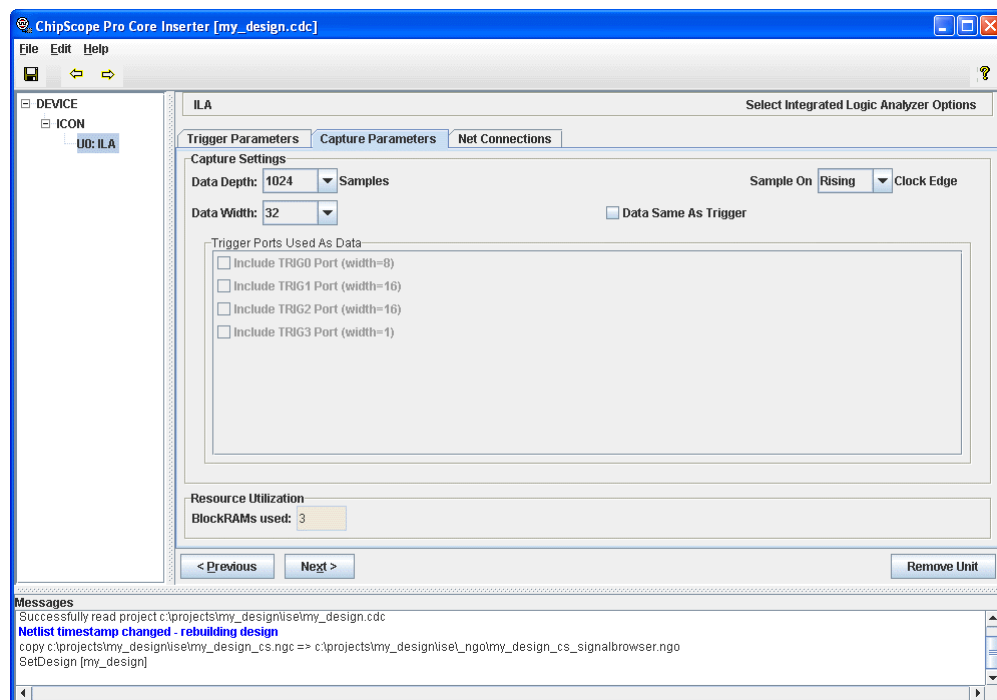
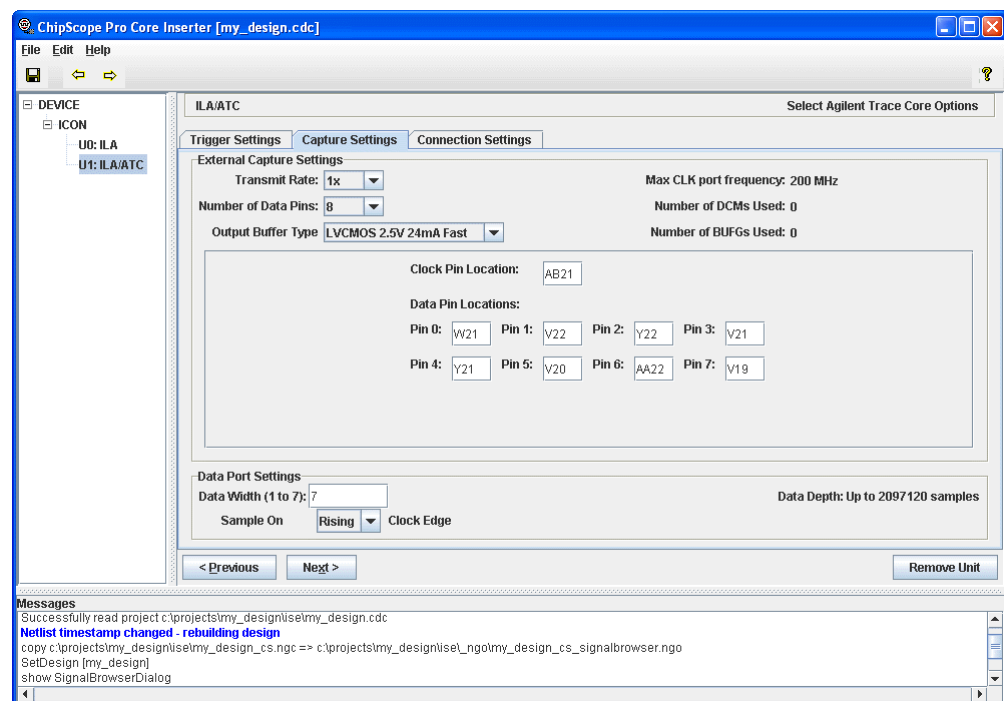

Figure 3-9: ILA Core Capture Parameters
Figure 3-11: ILA/ATC Core Data Settings
The second tab in the Core Inserter that is used to set up the of the capture parameters of the ILA core (Figure 3-9). The capture parameters for ILA are different from ILA/ATC (see Figure 3-11, page 3-16).
- **Data Separate from Trigger (Figure 3-9, page 3-13)**
If you are inserting an ILA/ATC core, the Capture Settings look like those in Figure 3-11.